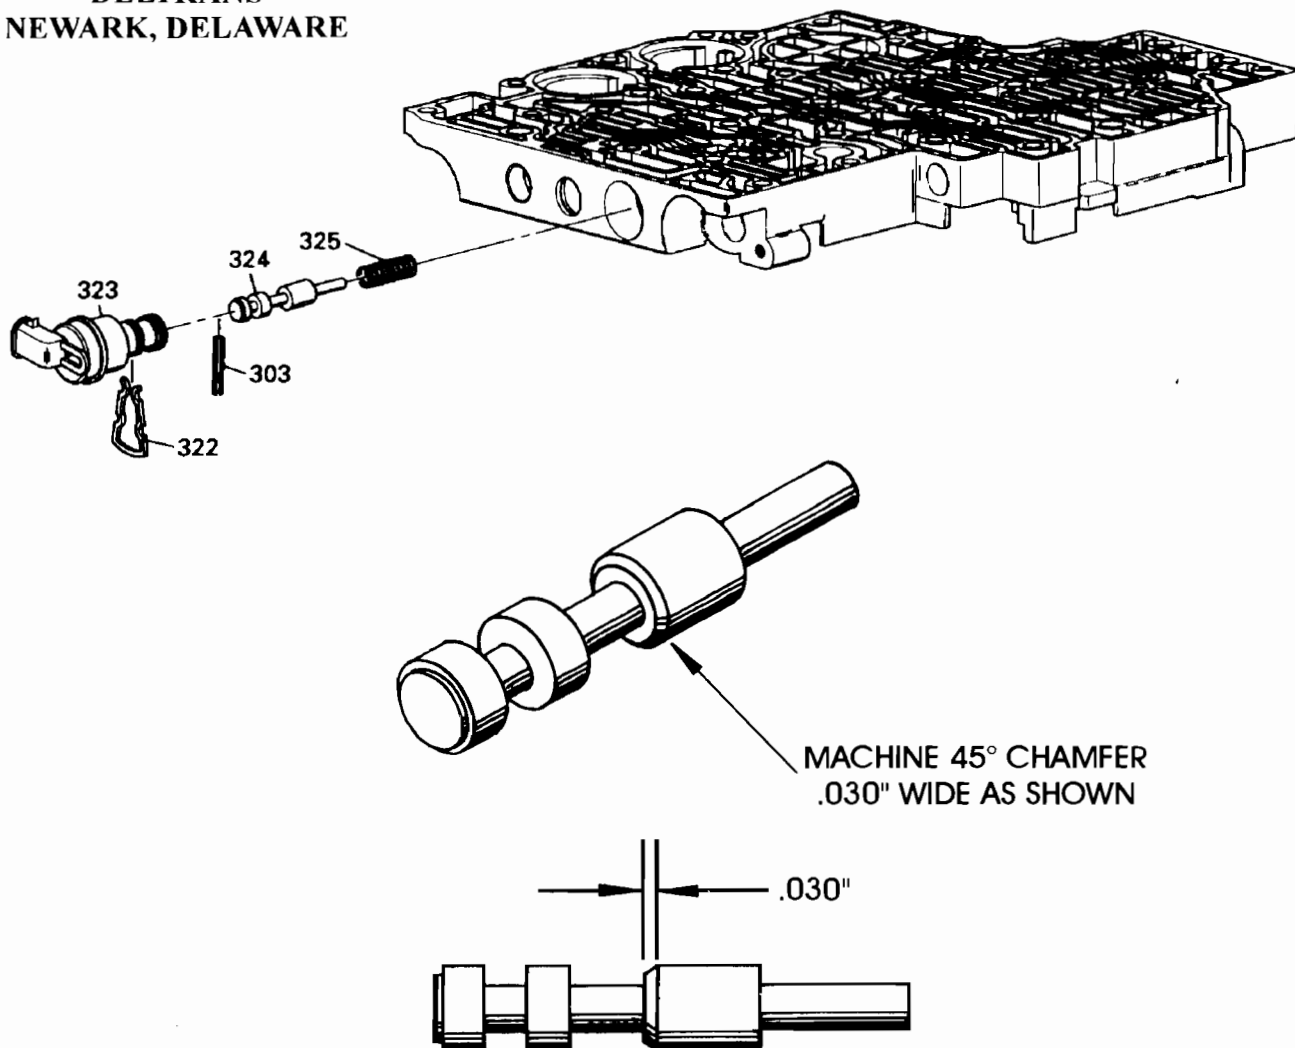

Figure 64
**CORRECTION:** Machine a 45 degree chamfer that is .030" wide, on the TCC Regulator Apply Valve, on the land that is shown in Figure 64. This will allow more line pressure in to the TCC regulated apply circuit. Do not machine any wider than .030".